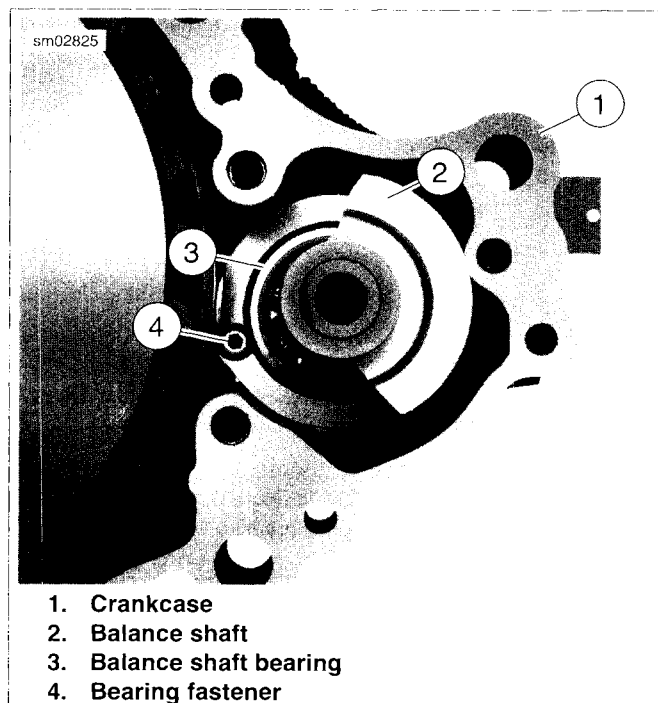

Figure 3-160. Balance Shaft Bearing
1. See Figure 3-160. Remove bearing fastener (4) from crankcase (1).
6. See Figure 3-160. Install **new** bearing fastener (4). Tighten to 40-70 **in-lbs** (4.5-7.9 Nm).